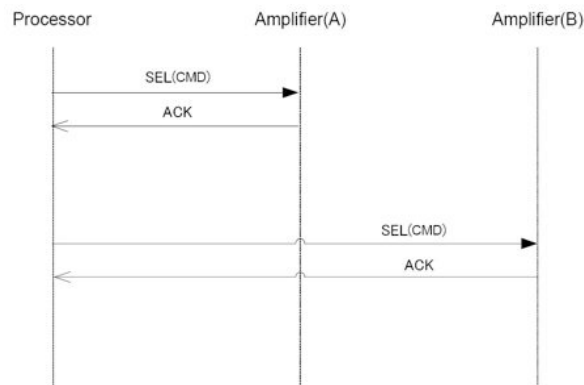

Figure 2.24 Using the SEL instruction to upload an amplifier DATA read command
- The Host PC can modify the responding DATA, by sending a SEL instruction to the amplifier(s) prior to a POL instruction (see Figure 2.24 below). The SEL instruction will contain one of the commands from Table 17 (below), followed by qualifying bytes. The command will then instruct the amplifier to only respond with the DATA packet corresponding to that command. For example, if the SEL instruction is used to send command 0x82, then only attenuation data will be sent back from the amplifier on the next POL instruction.